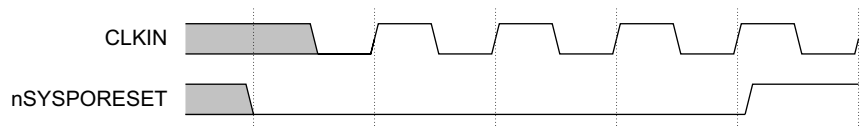

Figure 2-3 Power-on Reset
- Assert **nSYSPORESET** and keep it asserted for at least four **CLKIN** cycles. See Figure 2-3 on page 2-14.